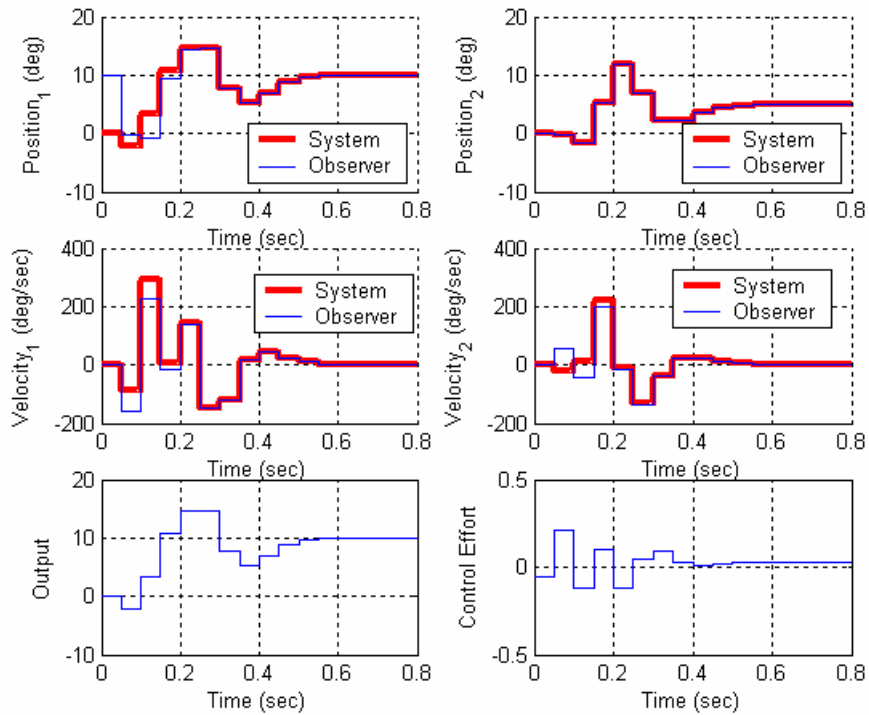

Figure 6: Results for problem 4c.
c) For the same conditions as part b, but assume the position of the second disk is available to the observer and the system output is the position of the first disk. The estimated position of the first disk is assumed to be 10 degrees all other initial estimates are zero. The real system starts at rest. Simulate the system for a 10 degree step. You should get a graph like that shown in Figure 6. Turn in your plot.